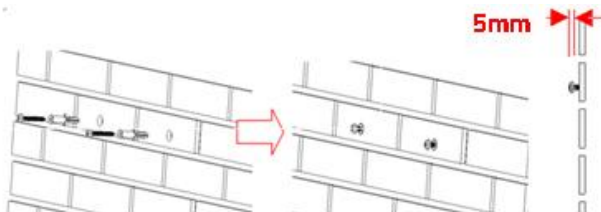

Fig. 4-2: Inserting the screws
Step 2: Insert the wall plugs by using a rubber hammer, and insert the self-tapping screws into the wall plugs until they protrude 5mm from the wall as shown in Fig. 4-2.